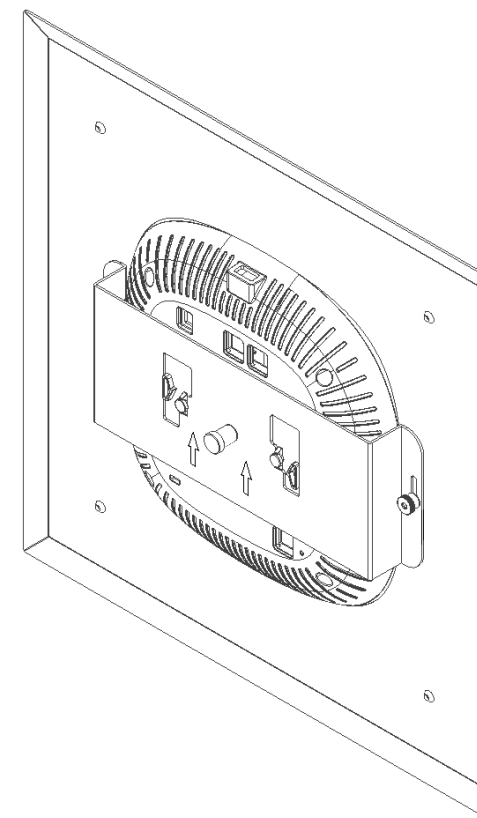

Figure 3 - Lock AP Into Trim
Step 4 – The mounting pegs on the bottom of the access point should protrude into the widest portion of the mounting bracket's slots. If they don't, slide the mounting plate so that the mounting pegs fall into the widest section of the mounting brackets slots. Lock the access point in place by sliding the mounting bracket in the direction shown in *Figure 3*. The plunger on the mounting bracket will fall into the hole on the back of the access point locking it into place. Complete the assembly by securely tightening the thumb nuts.